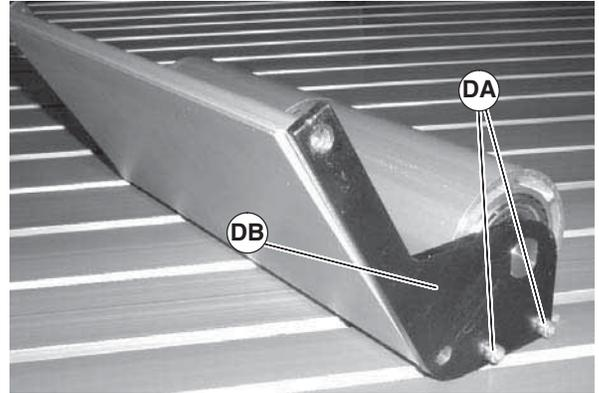

Figure 90
4. Remove screws (Figure 90, item DA) and idler guide side plate (DB).